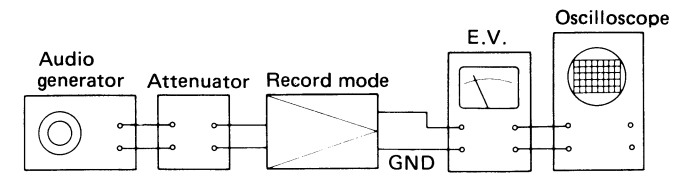

Figure 10-4
1. Make connection of instruments as shown in Fig. 10-4.